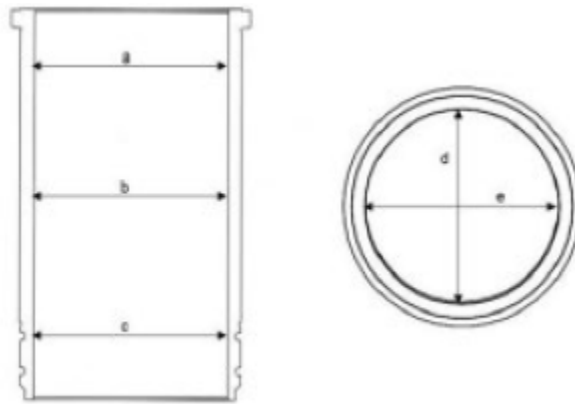

Figure 89.
3. Take measurements at three places (Figure 89) (a, b, c), and in two directions (d and e) in each cylinder liner.